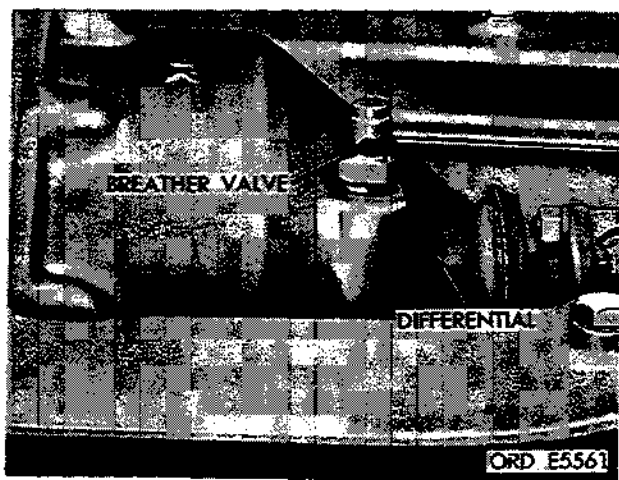

Figure 2-308. Differential breather valve.
a. Replacement. The differential breather valve is located at the top of the differential (fig. 2-308). Clean outside of valve and around valve before removing it to avoid possibility of dirt entering lubricant. Turn in or out to install or remove valve.